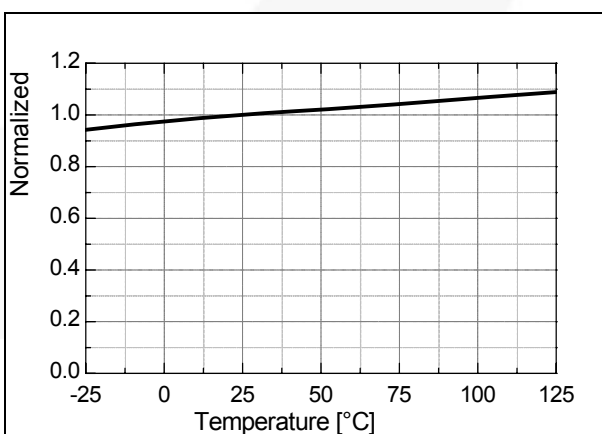

Figure 24. Peak Current Limit ( $I_{LIM}$ ) vs.  $T_A$
**3. Synchronization:** The FSQ-series employs a quasi-resonant switching technique to minimize the switching noise and loss. The basic waveforms of the quasi-resonant converter are shown in Figure 24. To minimize the MOSFET's switching loss, the MOSFET should be turned on when the drain voltage reaches its minimum value, which is indirectly detected by monitoring the  $V_{CC}$  winding voltage, as shown in Figure 24.